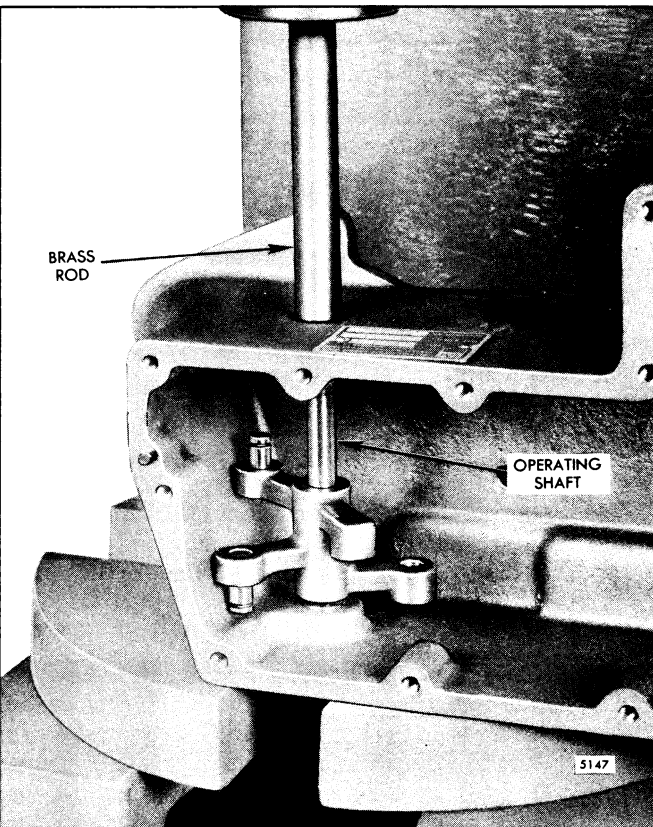

Fig. 8 - Removing Operating Lever Shaft and Enclosed Bearing Assembly
- g. On current governors, remove the four retaining rings (56) positioning the operating control link levers (57 and 61) on the operating lever shafts.
- h. On former governors, loosen the set screw (48) securing the terminal shaft lever (25) in position on the terminal shaft (26).
- i. Place the control housing (27) in an arbor press with one of the operating shafts (58 and 60, current governors) or the terminal lever shaft (27, former governors) parallel and directly under the ram of the press. Place a brass rod between the ram and the front end of the shafts (Fig. 8).